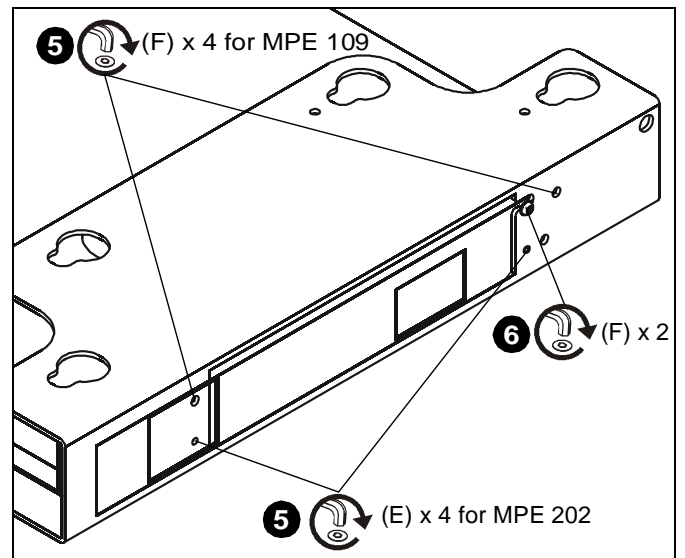

Figure 4
5. Use remaining security screws to secure CPU to CPU holder according to the directions below. (See Figure 4)
- If installing the MPE 109, install remaining four M4 x 10mm security screws (F) into holes shown in Figure 4.
- If installing the MPE 202, install four M3 x 10mm security screws (E) into holes shown in Figure 4.
6. Tighten screws partially installed in Step 3. (See Figure 4)